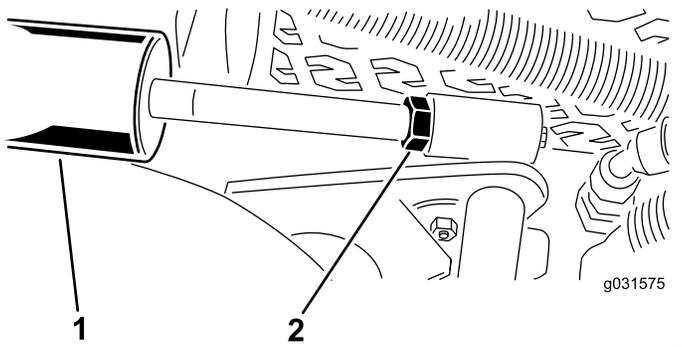

Figure 10
- A. Lower the cutting units and back off the jam nut on the cylinder (Figure 10).